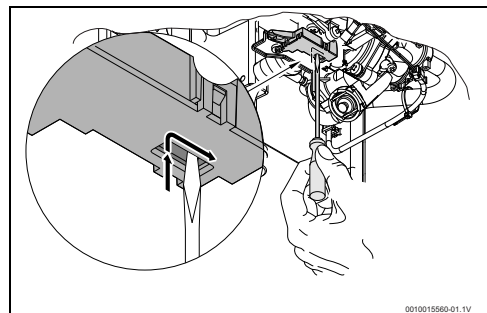

Fig. 26 Rearme do micro-interruptor
- ▶ Posicionar o micro-interruptor conforme Fig 26.